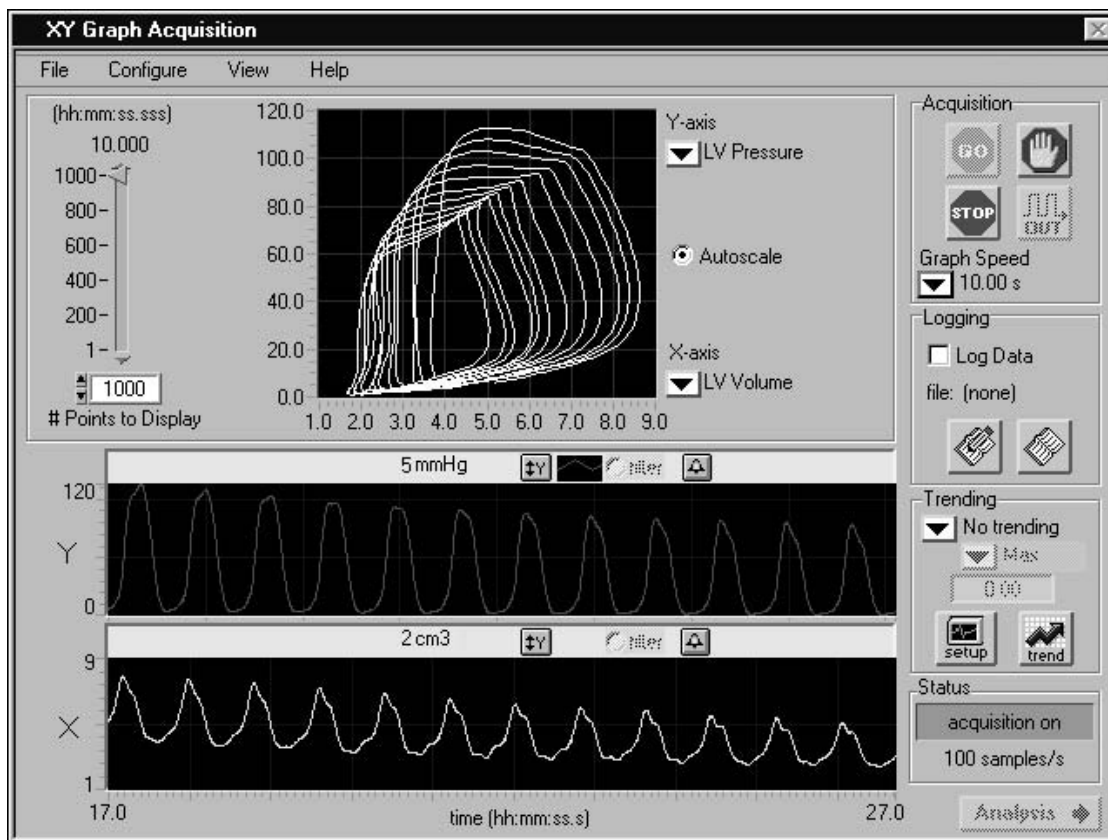

Figure B-7. XY Graph Acquisition View
4. With DataLab 2000 you can view real-time data in a variety of formats by using the **View** menu. You can display up to eight graphs of data simultaneously. In this example, select **View»XY Graph Acquisition** to view the data as an XY graph. Figure B-7 shows the XY Graph Acquisition view.